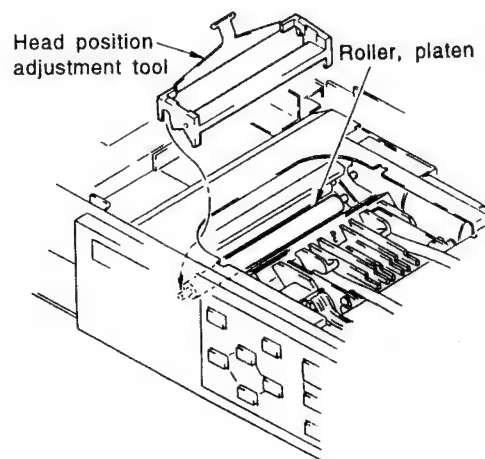

Fig. 3
4. Attach portion R of the Head position adjustment tool (J-9000-250-A) to the shaft of a platen roller. (Fig. 3)